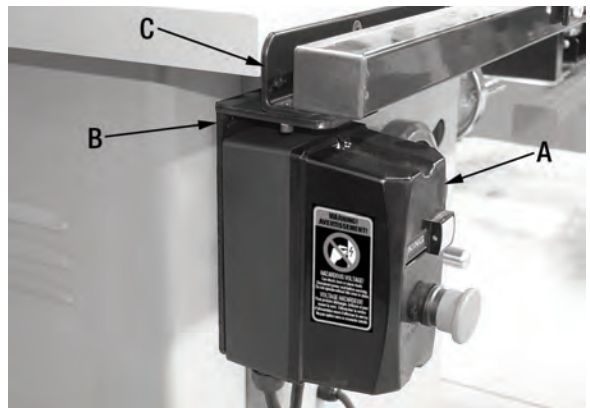

FIGURE 9
Install the magnetic safety switch (A) Fig.9 and the mounting bracket (B) assembly underneath the left end of the front rail (C) using 2 cap screws, 2 washers and 2 spring washers.